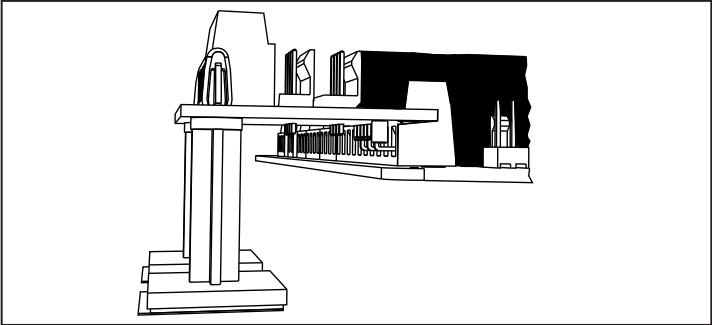

Figure 2.2: Module installed on the control panel
3. Slide the module so that the connection pins are fully inserted. Refer to *Figure 2.2*.